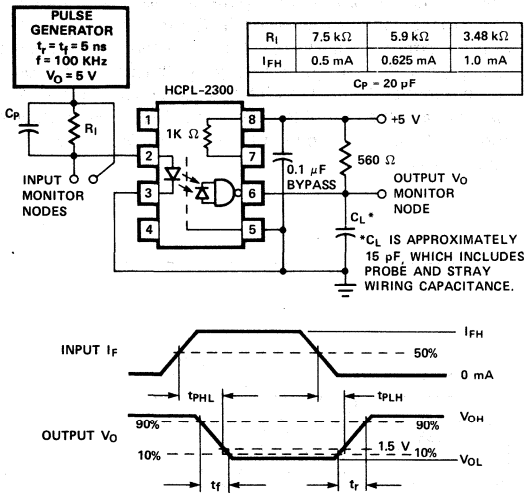

Figure 8. Test Circuit for t_{pHL} , t_{pLH} , t_r and t_f .
8. C_p is the peaking capacitance. Refer to test circuit in Figure 8.